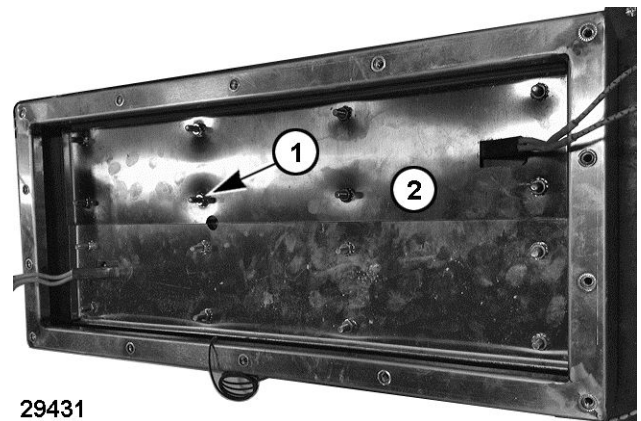

Fig. 42
9. Remove 16 mounting nuts (1, Fig. 42) securing heating element retainer (2, Fig. 42) to platen.